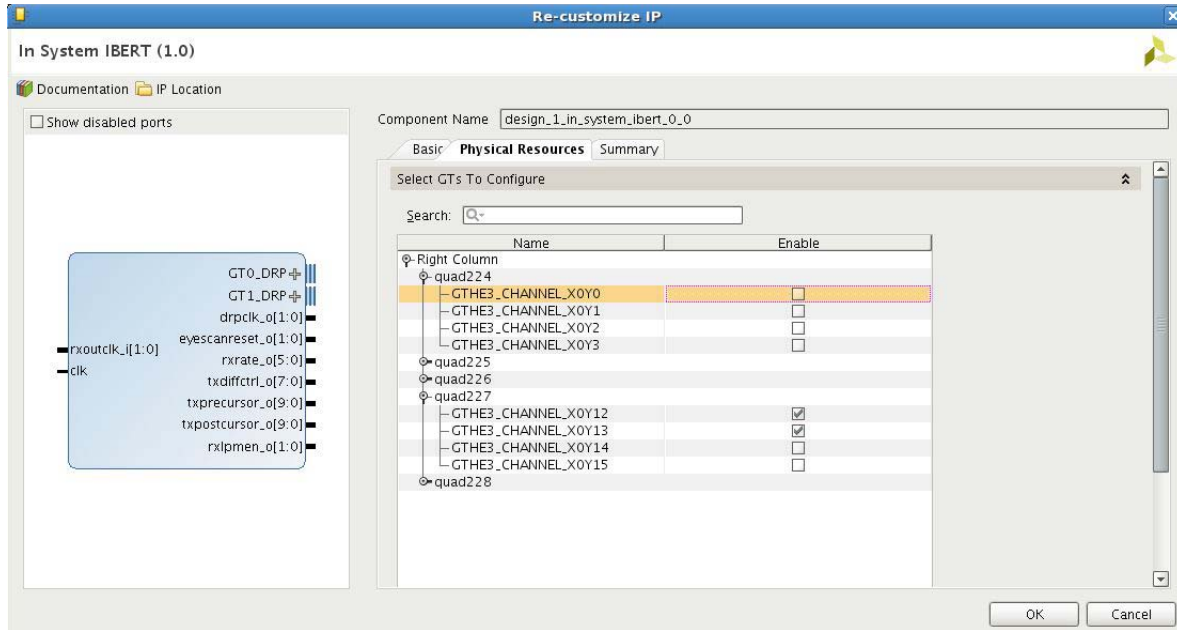

Figure 5-1: Recustomize IP
4. Re-customize the ISI IP for two channels (for example, channel X0Y12 and X0Y13 under quad227 as shown in Figure 5-1). De-select the first channel that is X0Y0 under quad224.